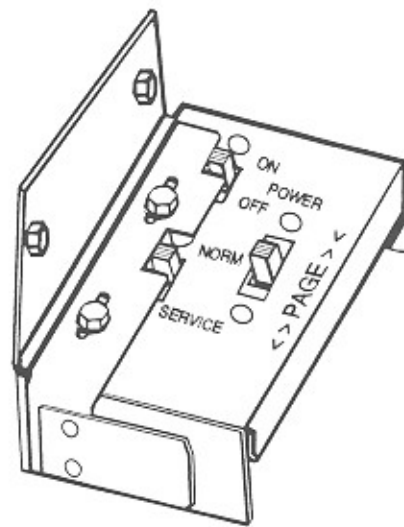

Figure 3-1. Service Switch
1. Open the door and place the SERVICE switch (*Figure 3-1*) in the SERVICE position. The phonograph display will read \* SERVICE MODE \*.
2. Move the SERVICE switch to the SERVICE position (Refer to Figure 3-1).